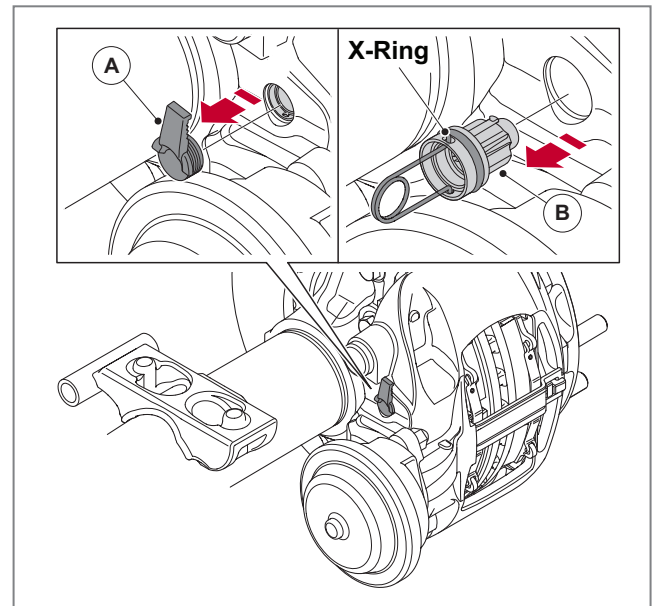

Fig. 73 - Removing the reset shaft
7. Remove the reset shaft protective plug (A).
8. Insert SAF special tool P/N 4 434 3885 00 and pull out the reset shaft (B) with complete x-ring, see ► Fig. 73. The x-ring must always be fitted to the reset shaft and never removed.